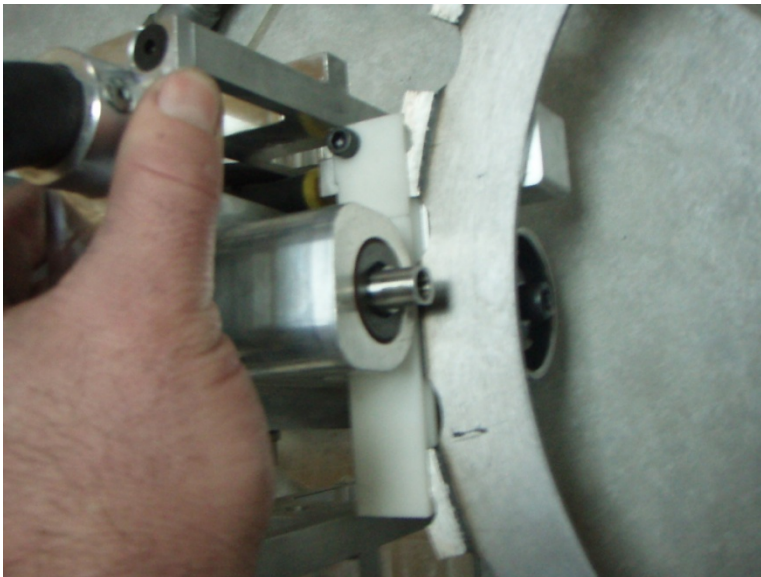

Figure 8
Step 8: Install new blade, matching groove in blade to lip on the lower drive roller. (figure 8)